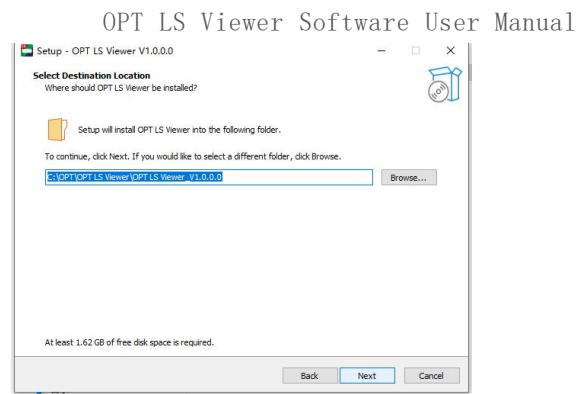

Figure 1.1.5 Selecting the installation location
4、Click "Next", click "Browse", and select the software installation path for OPT LS Viewer, as shown in Figure 1.1.5.